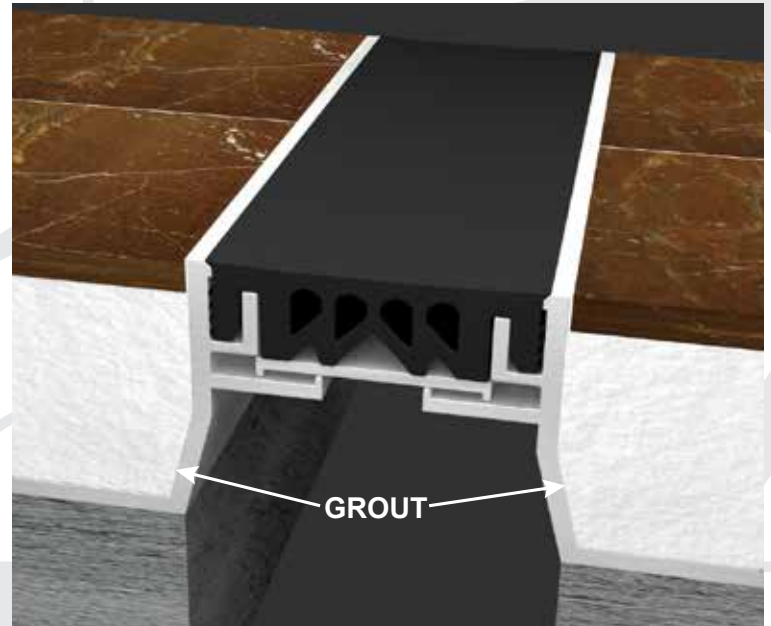

Figure 7—Grout Location
- Install grout continuously between the base members and blockout (Figure 7).